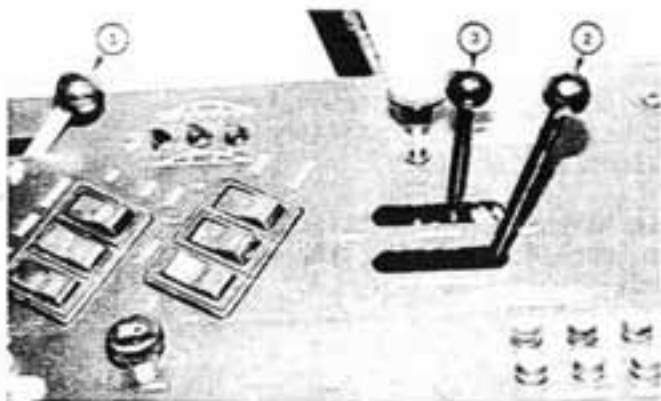

Figure 3
7. Observe solution pressure gauge and adjust spray pressure to the desired setting by using solution pump variable flow control lever (Item 2; Figure 3).
11. Turn the agitation system on slowly by moving the agitator variable flow control lever (Item 3; Figure 3).